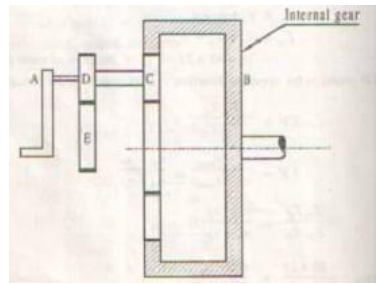

Fig. 4.3
- A fixed annular wheel B has 92 teeth. Wheel C and D have 25 and 15 teeth respectively. Wheel E has 52 teeth, if the arm A rotates at 130 rpm, what is the speed of wheel E shown in the figure 4.3.(solve it by algebraic method)